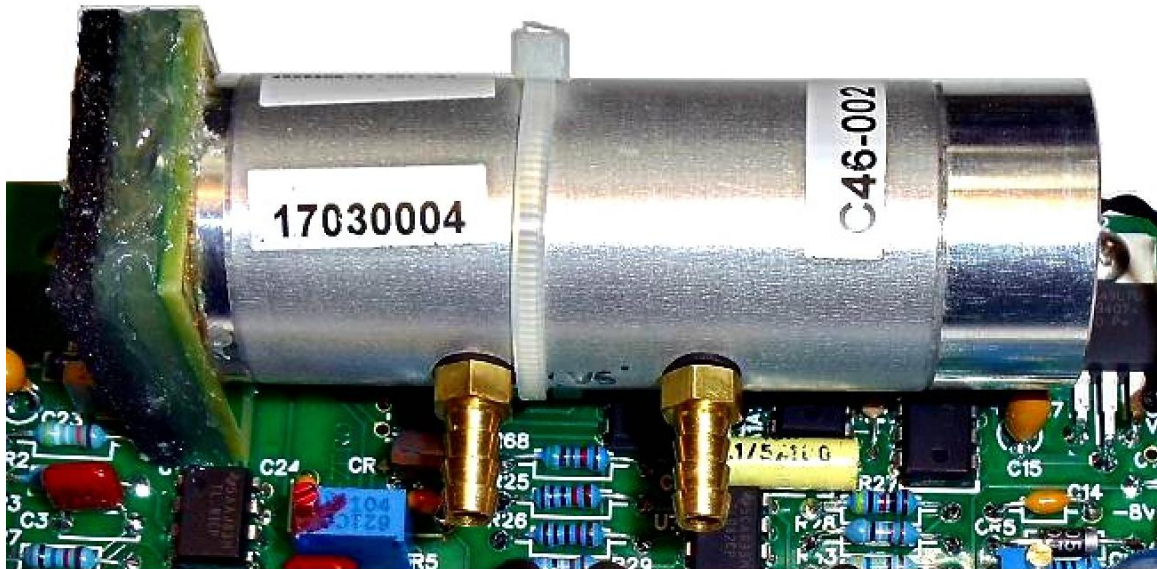

FIGURE 2 (2008SDH-1V Gas Cell / Detector)
Figure 2 - Gas Cell	4
D. Gas Cell / Detector (see Figure 2)